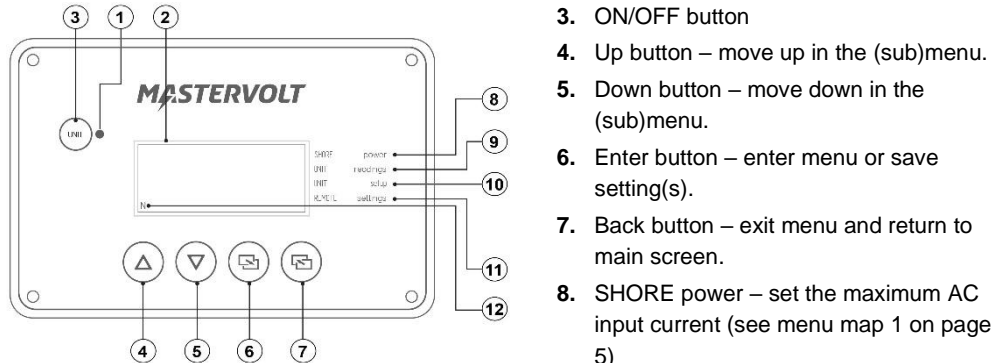

Figure 1. PowerCombi Remote Control front panel
The PowerCombi Remote Control is activated by pressing the “ON/OFF” button (item 3 in Figure 1). Note that the main switch of the PowerCombi Inverter/Charger must be in the Remote position (⇒).